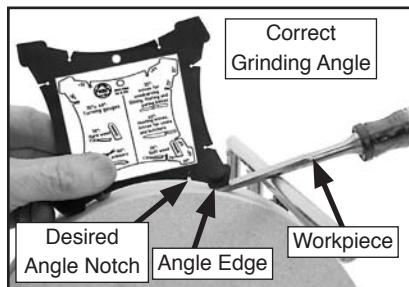

Figure 14. Angle guide usage.
3. Place the angle guide on the wheel with the desired angle notch (found in **Step 2**) against the wheel and adjacent to the universal support (see **Figure 14**).
4. Adjust the positioning of the tool and the universal support height as necessary so that the sharpened edge of the tool is flat against both the grinding wheel and the angle edge on the angle guide, as shown in **Figure 14**.